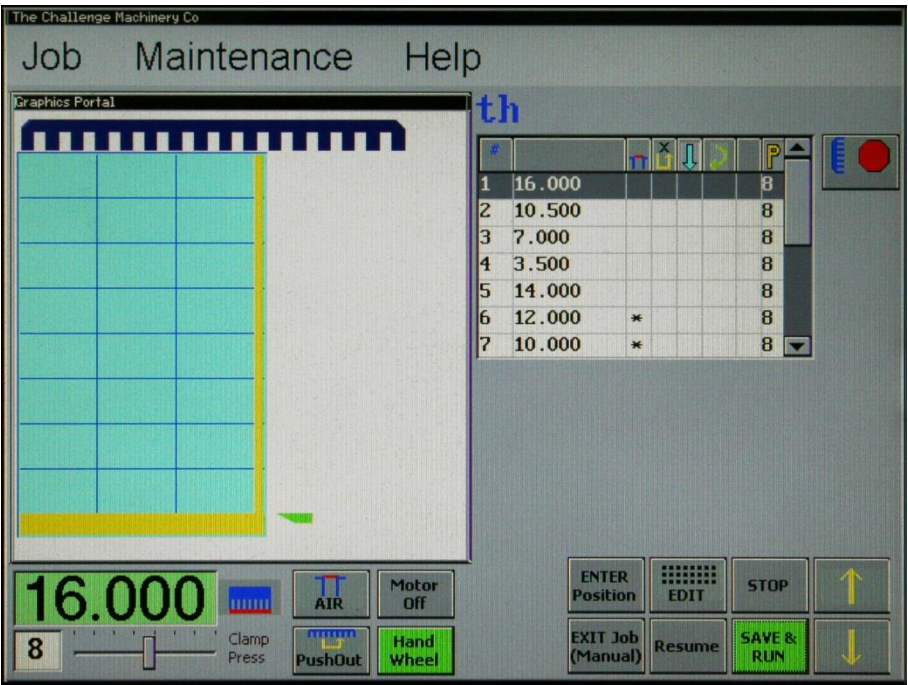

Figure 12 – Job Run Screen with Sheet Division
5. Once you've chosen the layout you would like to use, make sure it is highlighted then press the OK key. All of the necessary steps will automatically be entered into the job and the job will immediately begin to run. See Section 4.2.5 Running a Job for additional information. A graphical representation of the layout will also be shown at left (Figure 12). The graphics will indicate to the operator how to orient the paper for each step in the job.